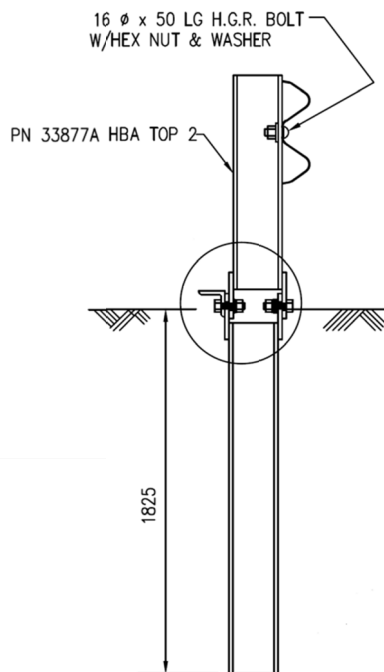

Figure 1
Option (1) Drive the HBA® Bottom Posts (PN 33873A) with an approved driving head to the appropriate depth(s), approximately 1825 mm. Ensure that the posts are positioned so that the larger holes in the post plates (ears) are on the downstream side (see Figures 1 and 2).
6. At Post location 2, fasten the 4 m Anchor Guardrail (PN 29G) to the HBA Top Post 2 (PN 33877A) using a 16 mm x 50 mm Guardrail Post Bolt (PN 3400G), a rail nut (PN 3340G), and a flat washer (PN 3300G) (see Figure 1). The washer is positioned between the post and the nut.